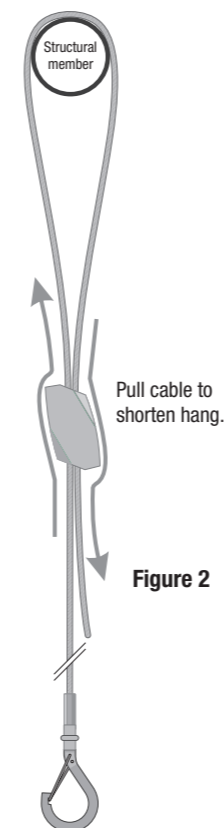

Figure 2
4. Adjust the length of the cable hang so the snap hook is at the desired height. To shorten the hang, simply pull the cable further through one or both holes in the connector (Figure 2). To lengthen the hang or to remove the cable from the structural member, insert the release key into the appropriate release key hole; this will unlock that hole in the connector and allow the cable to move in the other direction.